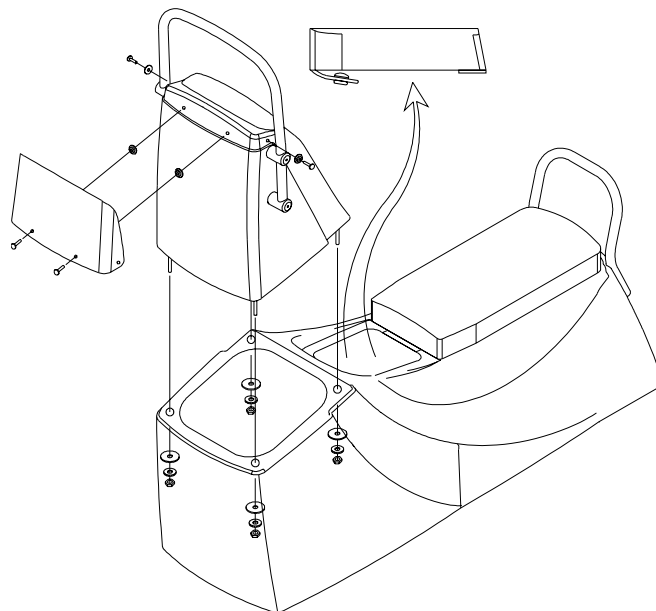

Fig. B1
1. Take off bow part of the seat from the console (see. Fig B1). The bow seat is fixed by the press-button and the "bur".
6. Install the upper part of the console 2 on the base part 1. (see. Fig.B1). Fix the upper part of the console with the help of nuts M8, washers 8x24, arrester washers (see point.2). Tighten all nuts.
1-3. See Pg.12 and Fig.B1, B2, B3.